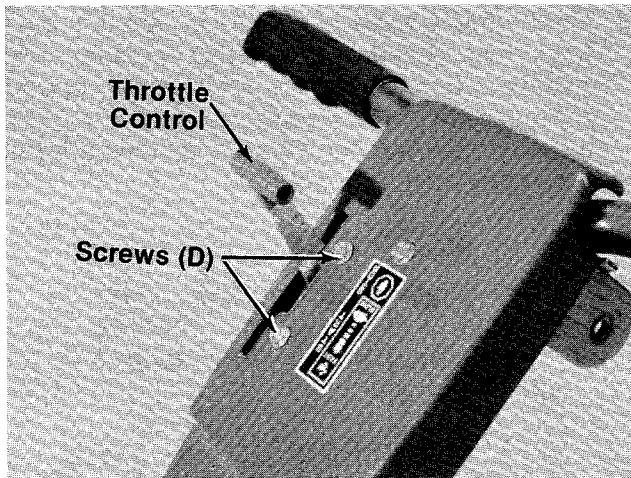

FIGURE 7.
2. Place throttle control up through slot provided in handle panel. Secure with two screws (D). See figure 7.
3. Secure throttle control wire to handle using cable ties (C).